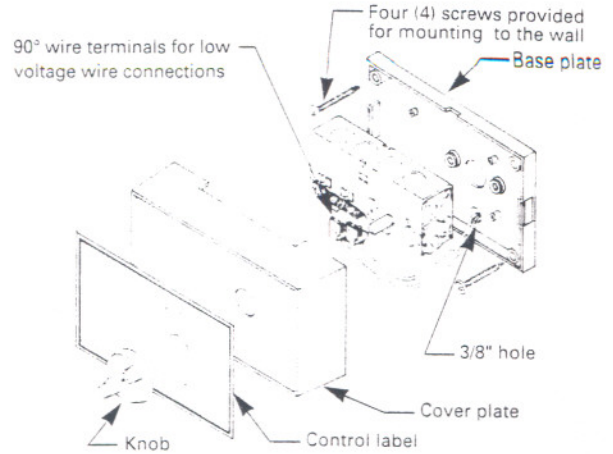

FIG. 15
Mount the humidistat on the wall using the four (4) 1" long screws provided. Make sure it is level and the low voltage wire is coming out thru the 3/8" hole on the base plate. (Fig.15)